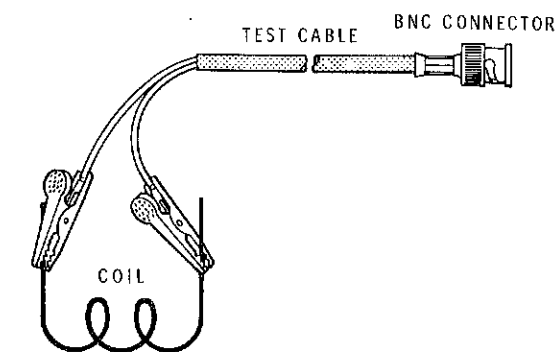

Figure 8
5. When you measure frequencies from a transmitter with a power greater than 1/2 watt, use a coupling coil in place of a direct connection. Three turns of a hook-up wire connected to the end of the test cable, as shown in Figure 8, will provide enough signal to trigger the counter. Place the coil just close enough to the signal source for the Counter to count. NOTE: Do not connect the ground to the transmitter and place the coil in the same axis as the transmitter coil or around the antenna.